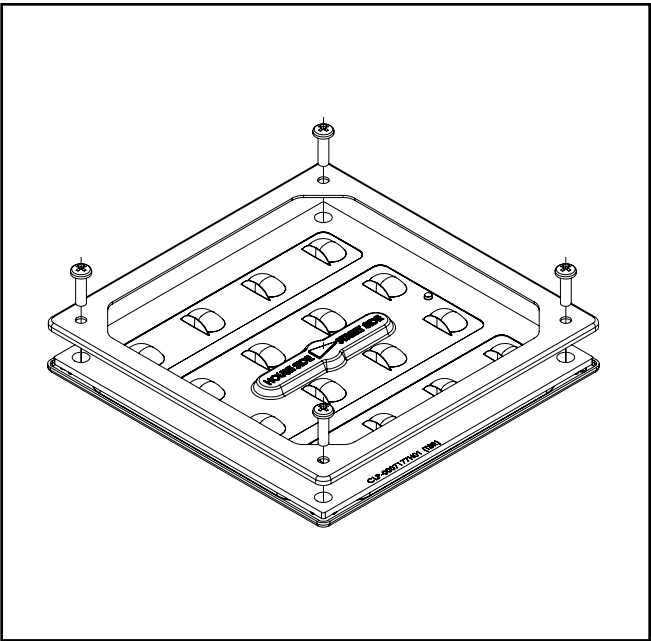

Figure 1.
- 3. Holding the trim plate or shield (if applicable) in place, secure the assembly to the heatsink using the four screws (Figure 1).